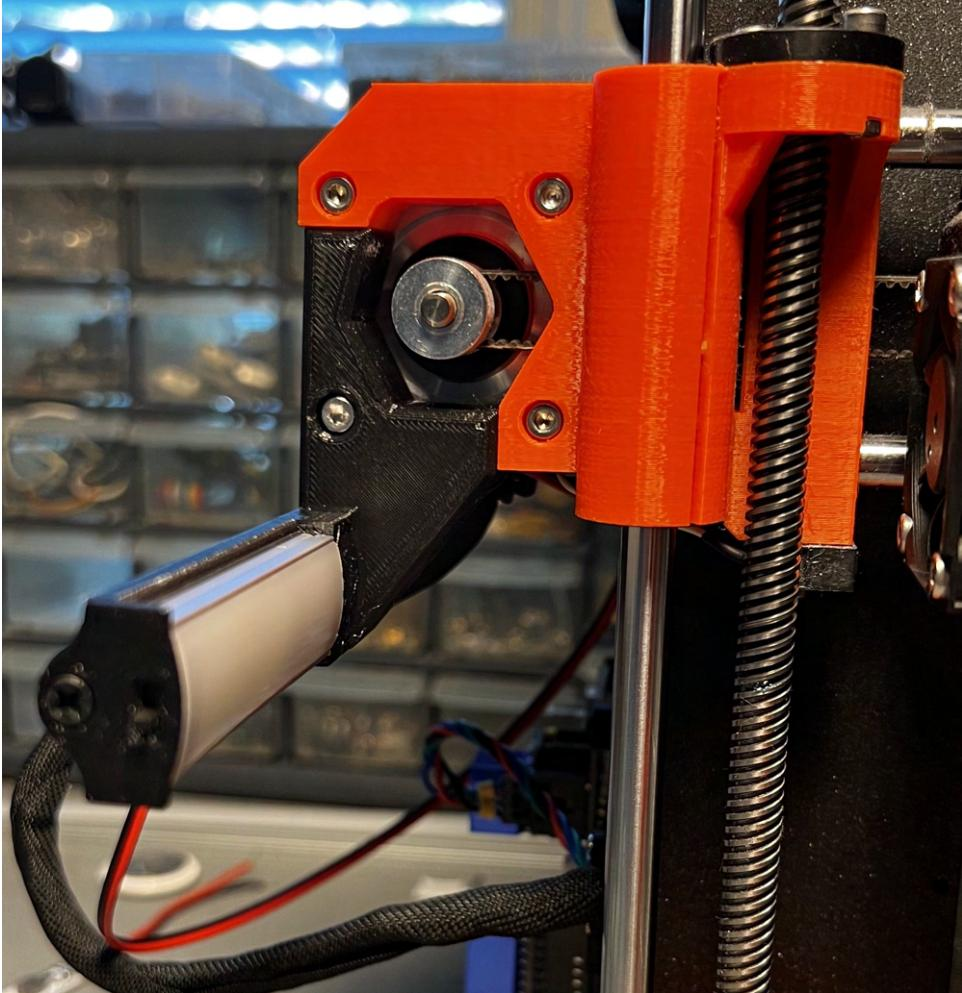

Figure 13: LED light installed on X-axis motor.
4. You are now ready to mount the light onto the printer. Simply take the M3 screw and attach it to the hole on the X-axis motor, as shown in Figure 13.